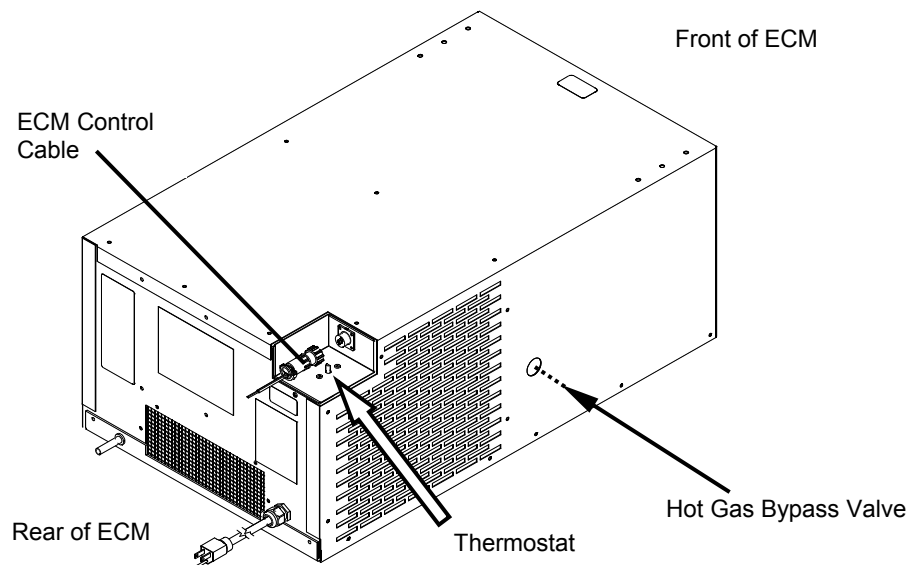

Figure 11 – ECM Adjustment Points
3. All 38" deep cabinets require the Top-Mount evaporator duct (item B in Figure 11). Remove the screws for this duct from the rear of the ECM.
4. The top-mount ECM assembly is secured to the frame with (8) hex bolts (item G in Figure 11). Remove these bolts from the inside of the enclosure.